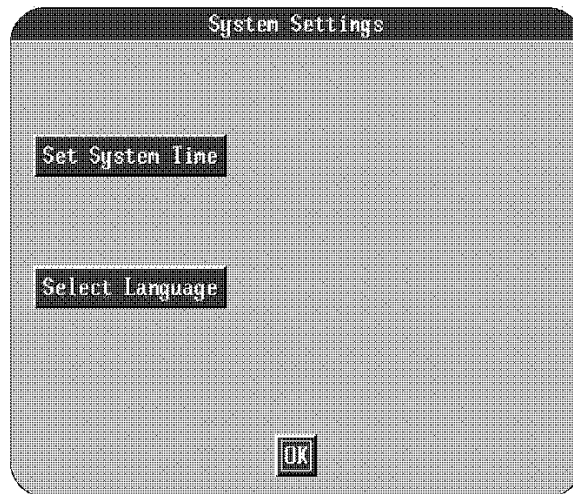
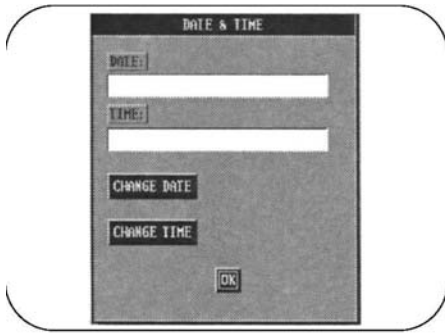
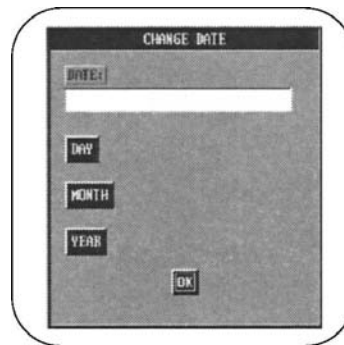

Figure 3-24: System Settings Screen
Figure 3-25: Set Date and Time Pop-up Screen
Figure 3-27:
1. If the Control Unit time or date are incorrect, they can be changed. Press the TAB key to Set system Time on the System Settings Screen (*figure 3-24*) and press the ENTER key. At this point the Set Date and Time Pop-up screen (*figure 3-25*) will be displayed.
5. After the time is set correctly TAB to the OK and press the ENTER key. This will return the display to the Set Date and Time Pop-up Screen (*figure 3-25*).
6. To set the date, TAB to the CHANGE DATE on the Set date and Time Pop-up screen (*figure 3-25*) and press the ENTER key. This will display the Set Date Pop-up Screen (*figure 3-27*).
10. TAB to OK and press ENTER to exit. This will return you to the Set Date and Time Pop-up Screen (*figure 3-25*).